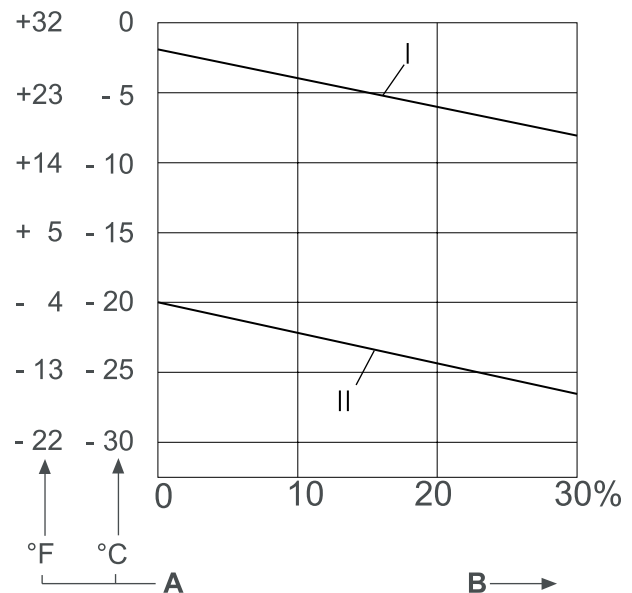

Fig 1.
- Below -20°C: paraffin should be added. The relevant percentages are shown. → Fig 1. (□ 3-14).
If it is necessary to use Summer diesel fuel below 0°C (32°F), up to 30% petroleum can be added as shown. → Fig 1. (□ 3-14).